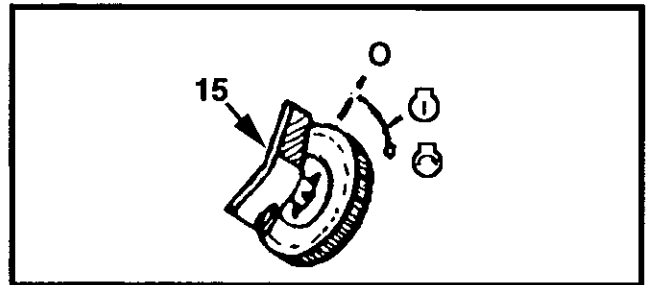

Figure 4-22 Ignition Switch
3. Allow machine to idle for a few minutes before turning ignition switch key (15, Figure 4-22) to **O** position. Remove ignition key.